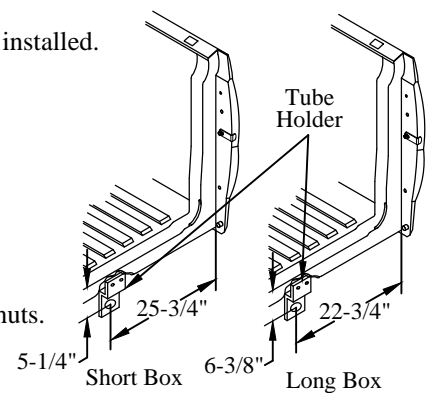

Figure 7: Tube holder location.
1. **Position** the supplied spare tire tube holder on the rear inside lip of the box (Figure 7).